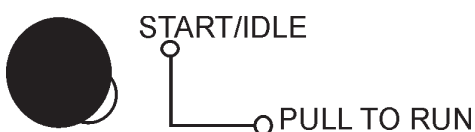

Figure 51. Engine Throttle Control
8. Place the **engine throttle control** in the "**LOW**" position (Figure 51).